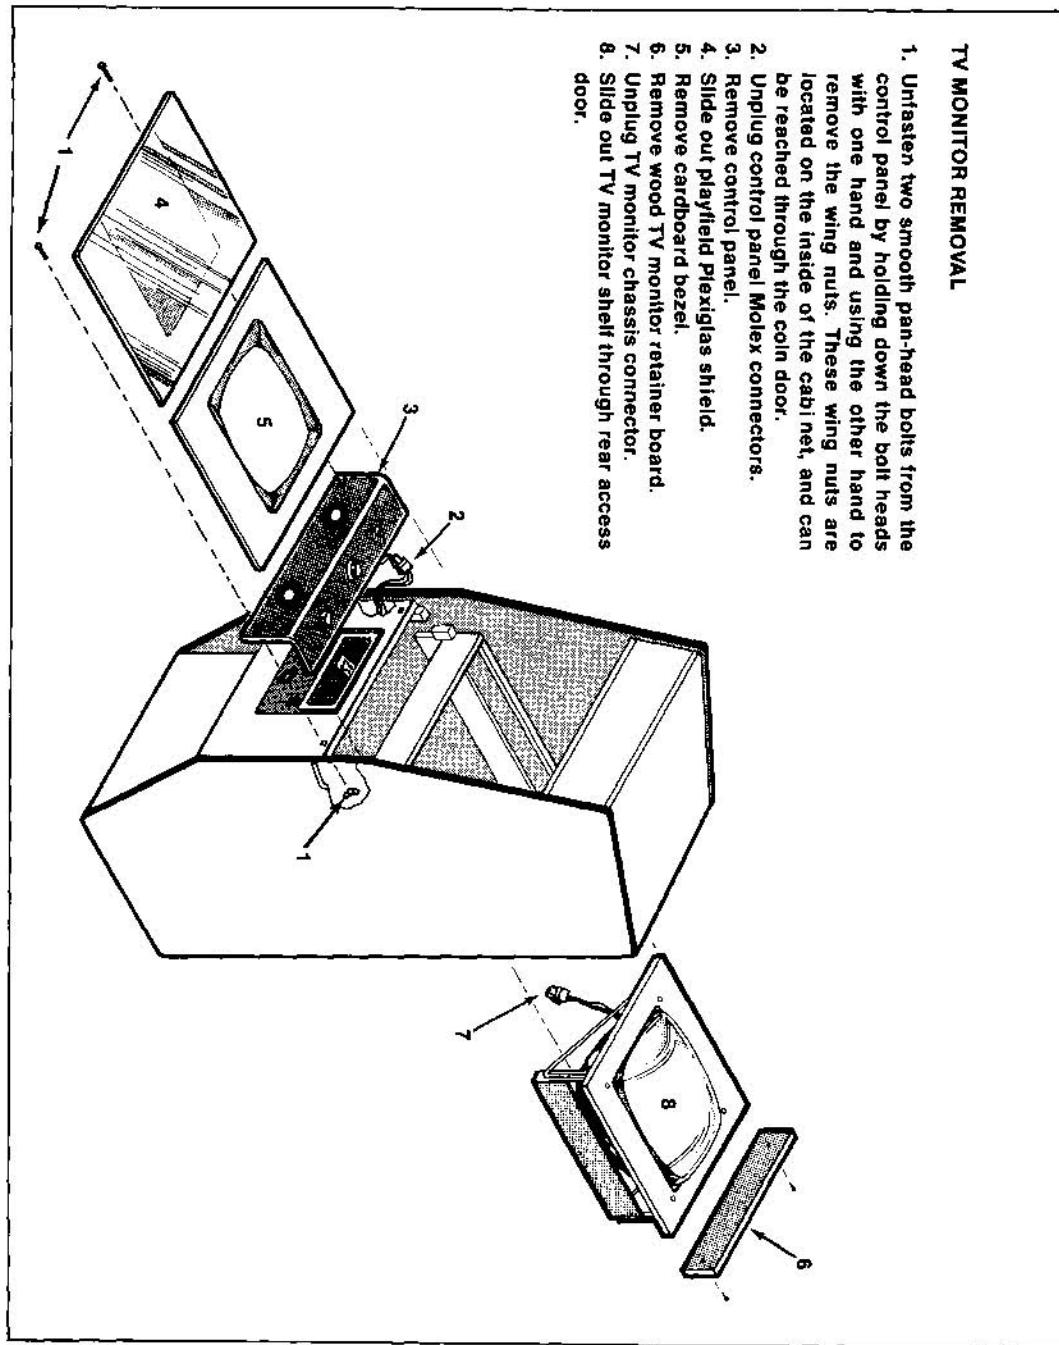

Figure 4-10 TV Monitor Removal
E. TV MONITOR REMOVAL (See Figure 4-10)
If the TV monitor proves to be at fault, remove the monitor as shown in Figure 4-10.